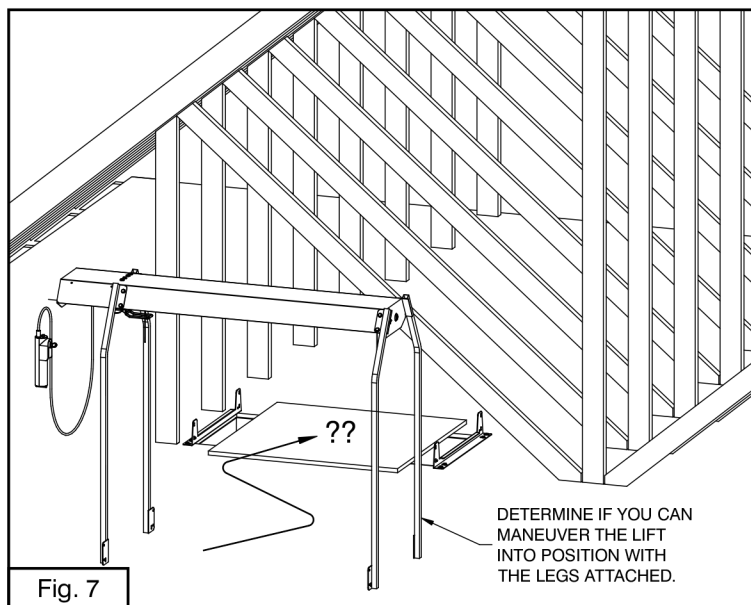

Fig. 7
Before attaching the legs to the lift housing, determine if you will have adequate space to maneuver the assembly into position between the joists and over the opening (Fig. 7). **If you have any doubts about having enough space, just follow "Procedure 2" detailed on the following page. It will work even in tight quarters.**
**PROCEDURE 1: (Requires 2 persons)** If you have enough room, you can place the housing on the floor bottom-side-up and assemble the truss legs to the housing using two bolts, nuts, and washers for each leg. Install the bolts, but leave them loose so the legs can be tipped slightly if necessary during maneuvering. Then stand the assembly upright as shown in Fig. 7 and maneuver into position. **Now follow steps 2-7, 2-8, and 2-9 of PROCEDURE 2 on the following page.**